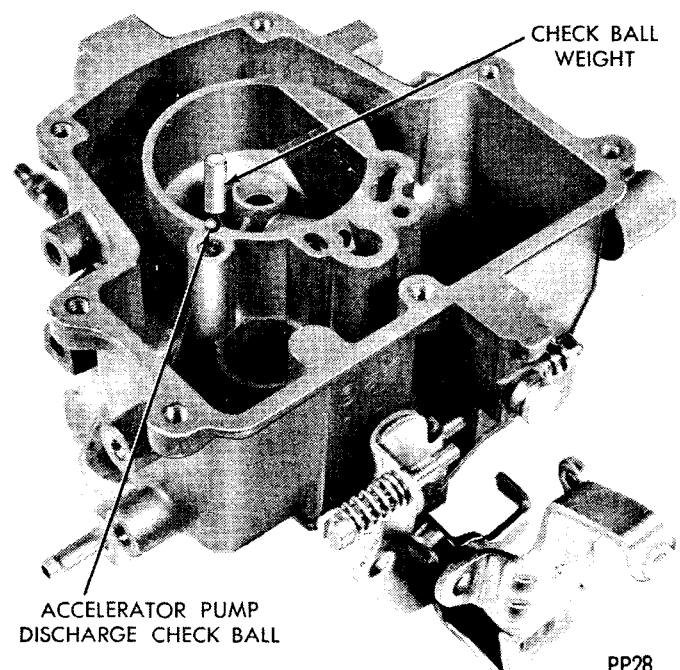
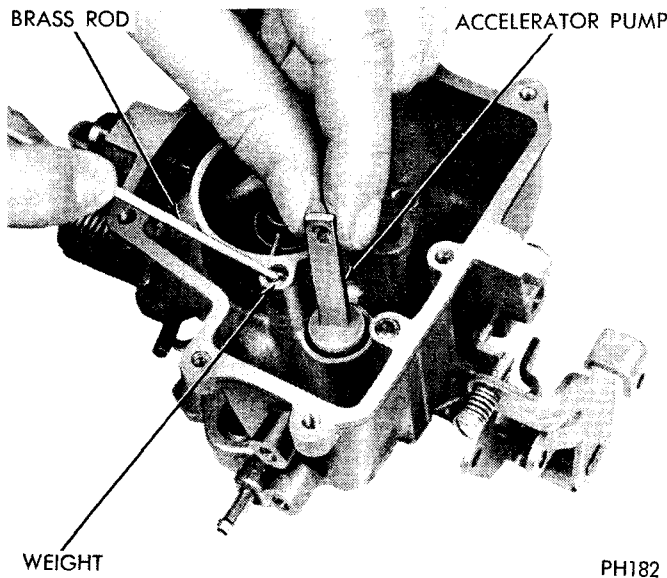

Fig. 20—Accelerator Pump Discharge Check Ball and Weight Location
Fig. 21—Testing Accelerator Pump Discharge Check Ball and Seat
(2) Test the accelerator pump discharge check ball and seat prior to assembly by coating the pump piston with oil, or filling the fuel bowl with clean fuel. Install accelerating pump discharge check ball and weight (Fig. 20). Hold the discharge check ball and weight down with a small brass rod and operate the pump plunger by hand. If the check ball and seat are leaking, no resistance will be experienced when operating the plunger (Fig. 21). If the valve is leaking, remove weight and stake the ball using a suitable drift punch. Exercise care when staking the ball to avoid damaging the bore containing the pump weight. After staking the old ball, remove and replace with new ball from tune-up kit. Install weight and re-check for leaks. If no leaks, remove check ball and weight from main body and install accelerator pump, pump operating rod, and rod retainer in bowl cover.